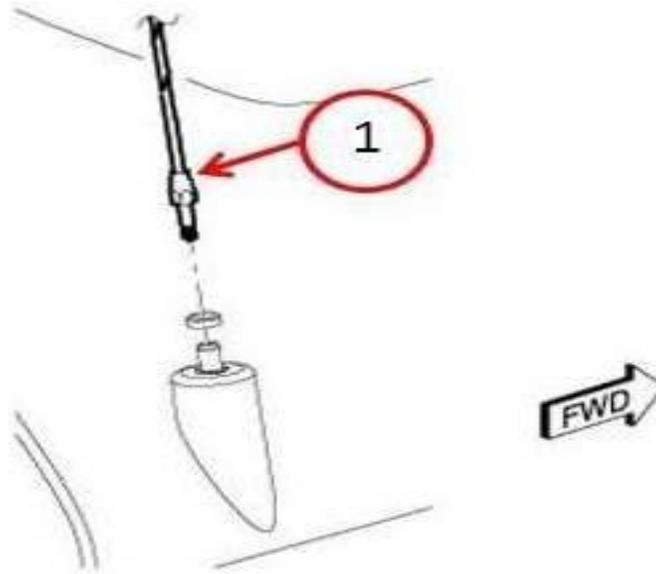

**Fig. 4 Antenna Mast Connection**
6. Disconnect the antenna mast connector from the instrument panel antenna connector (Fig. 4).